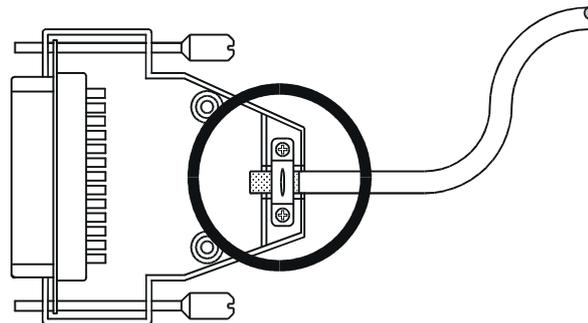

Figure 1: Shield connection for sub-D male connectors in agreement with EMC
- Only use metallised connectors, e.g. SUB-D with metallised housings. Please see to it, that here the strain relief is also directly connected with the housing (see Figure 1).